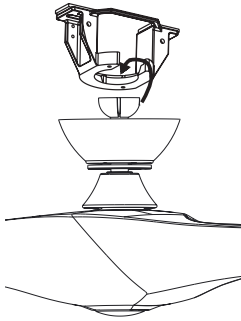

Fig. 8
1. Carefully lift the fan assembly and seat the hanger ball of the downrod on the hanging bracket. Ensure the groove in the ball joint is positioned to the tab on the hanging bracket to prevent fan from rotating when in operation. (Fig. 8,9,10)